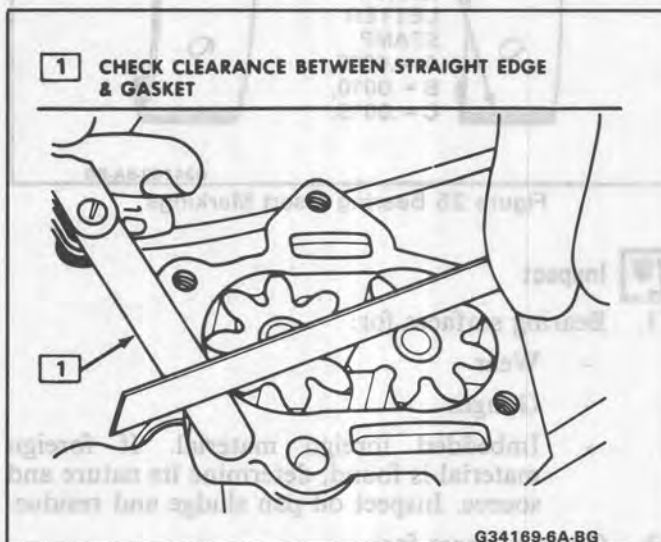

Figure 21 Measuring Oil Pump End Clearance
- Gear end clearance (Figure 21)